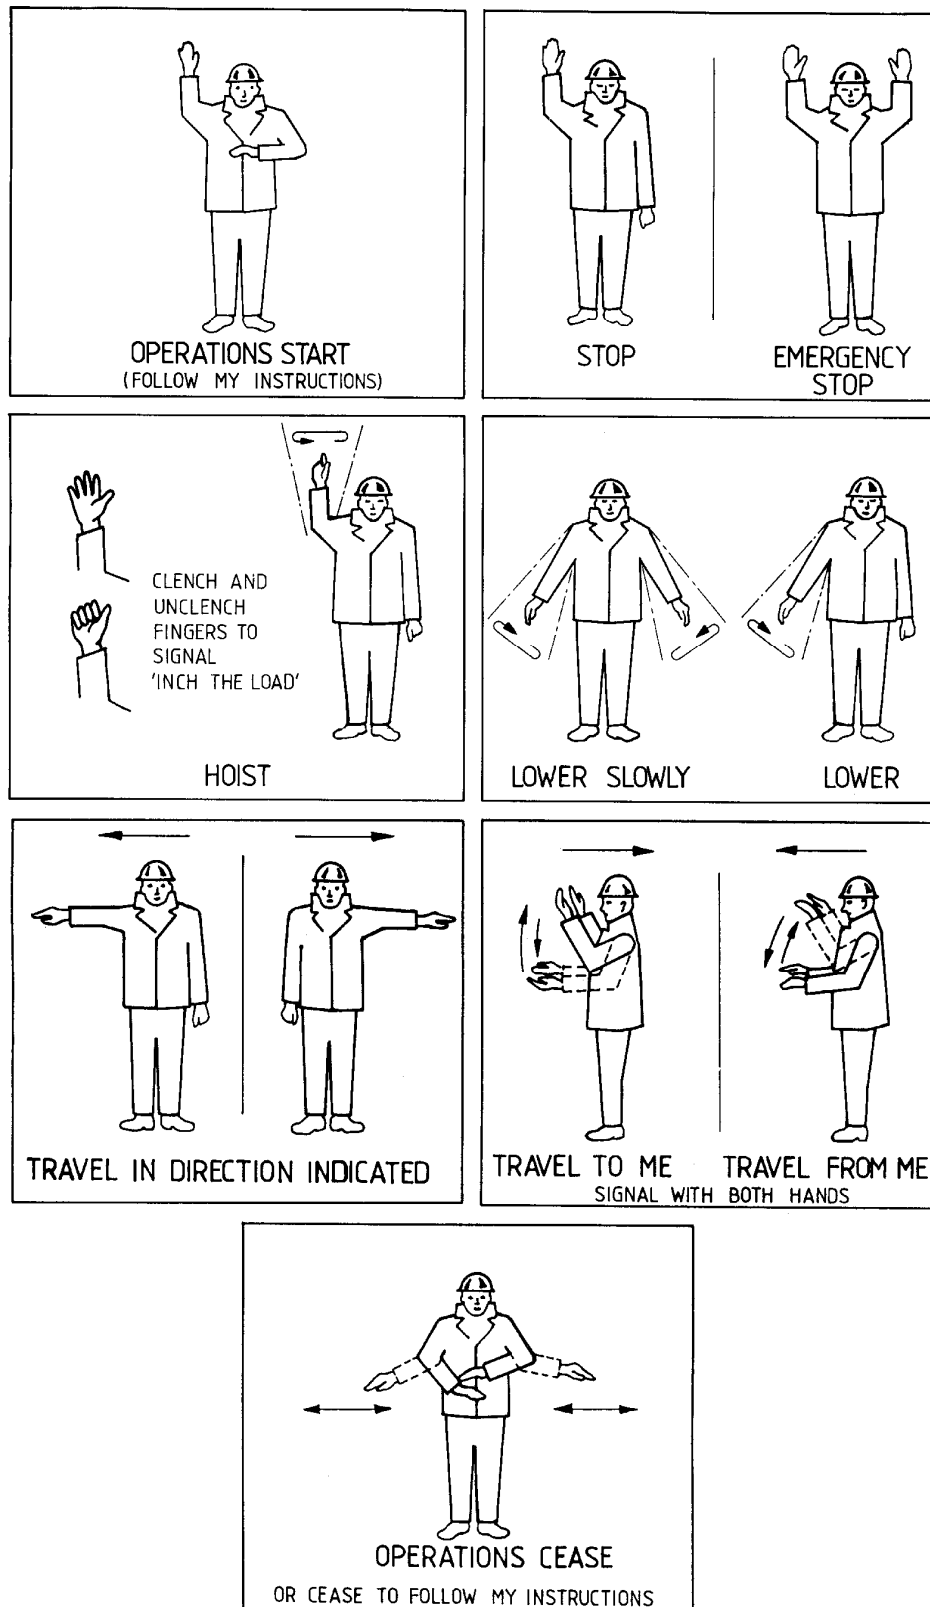

Figure 21 - Recommended Hand Signals
19. Ensure that you can see the hook or load clearly at all times or are receiving signals from someone who can. Ensure that both parties know the full meaning of the hand signals for operating the crane / hoist. See Figure 21 for recommended hand signals.